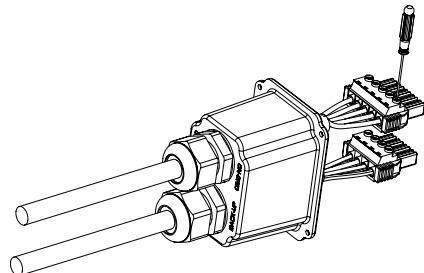

Figure 4-30
- ④ Lock the well-pressed cord end terminals into the AC connector in the accessory bag and make sure the cables sequence is in line with the mark on the connector, as shown in Figure 4-30: